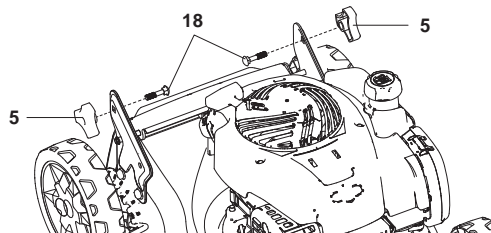

Fig. 1
1. Remove the Arc-head bolt M8X35 (18) from the handle supports (17) and keep them handy (Fig. 1)